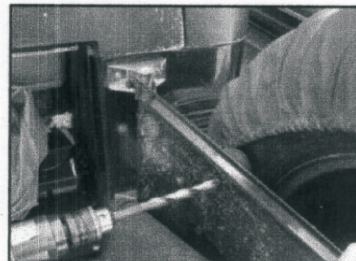

Figure 2
- 2) Drill $\frac{1}{2}$ " holes in the previously marked locations (Figure 2). CAUTION: Do not drill through your tailgate!